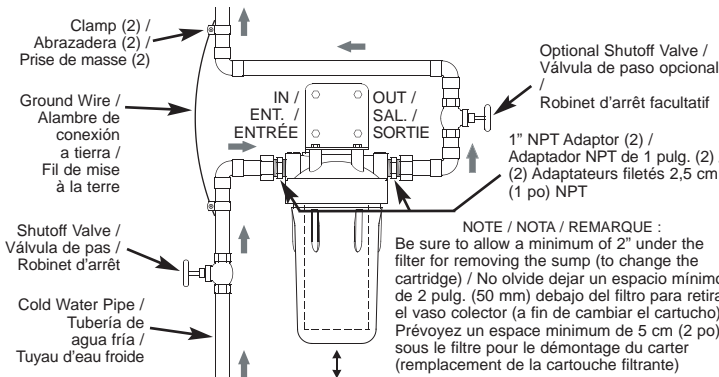
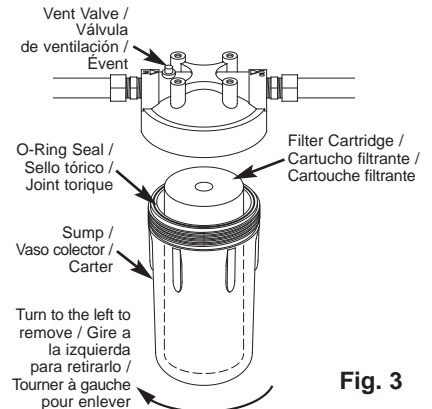

Fig. 1
Fig. 3
To filter water to a faucet, install the undersink filtration system on the COLD supply water pipe to that faucet (See Figure 1).
3. Cut out a section of the COLD water supply pipe several inches long, as needed to install the filter as shown in Figure 1.
5. With the IN side of the water filter toward the incoming water, make connections, as shown in Figure 1. When tightening compression nuts, be sure to use a second wrench to hold the 1" NPT fitting while turning the nut.
The house cold water pipe is often used to ground electrical outlets in the home. Grounding protects you from electrical shock. Installing the water filter may have broken this ground. To restore, buy and install a #4 copper wire across the filter, tightly clamped at both ends, as shown in Figure 1.
1. Close the water supply shutoff valve to the filter (See Figure 1). To relieve pressure in the filter, press the vent valve on top of the filter head (See Figure 3) or open a cold water house faucet downstream of the filter.
2. Turn the sump to the left to remove from the head (See Figure 3). Be careful, as the sump is full of water. Do not lose the large o-ring seal.
8. Partially open a house faucet downstream of the filter housing. Then, slowly open the water supply shutoff valve (See Figure 1) and allow the filter housing to fill with water. While it is filling, press the filter vent valve to release air in the filter.
Pour filtrer l'eau d'un robinet, installez le système de filtration à montage sous l'évier sur le tuyau d'arrivée d'eau FROIDE de ce robinet (voir figure 1).
1. Fermez d'abord l'arrivée d'eau du filtre (voir figure 1). Pour relâcher la pression à l'intérieur du filtre, appuyez sur l'évent situé sur le dessus de la tête du filtre (voir figure 3) ou ouvrez un robinet d'eau froide en aval du filtre.
2. Tournez le carter vers la gauche pour le séparer de la tête (voir figure 3). Prenez garde, car le carter est rempli d'eau. Ne dégagez pas le grand joint torique.